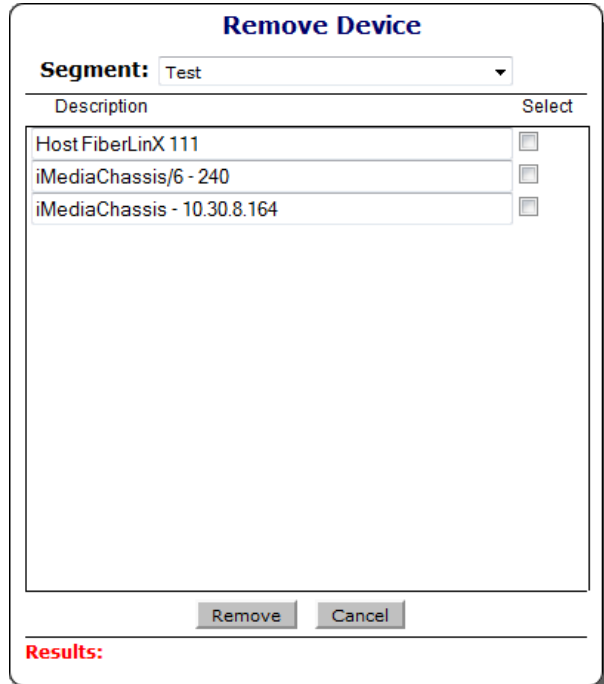

Figure 3.47 Remove Device Menu Command
2. Select a segment to display all the devices associated with that Segment under the Description section as shown in Fig. 3.47.